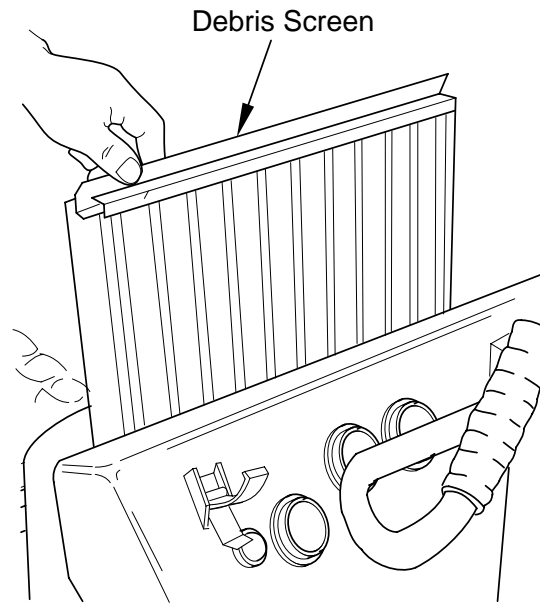

Figure 7-7 Debris Screen Removal
2. Pull the radiator debris screen up to remove (Figure 7-7).